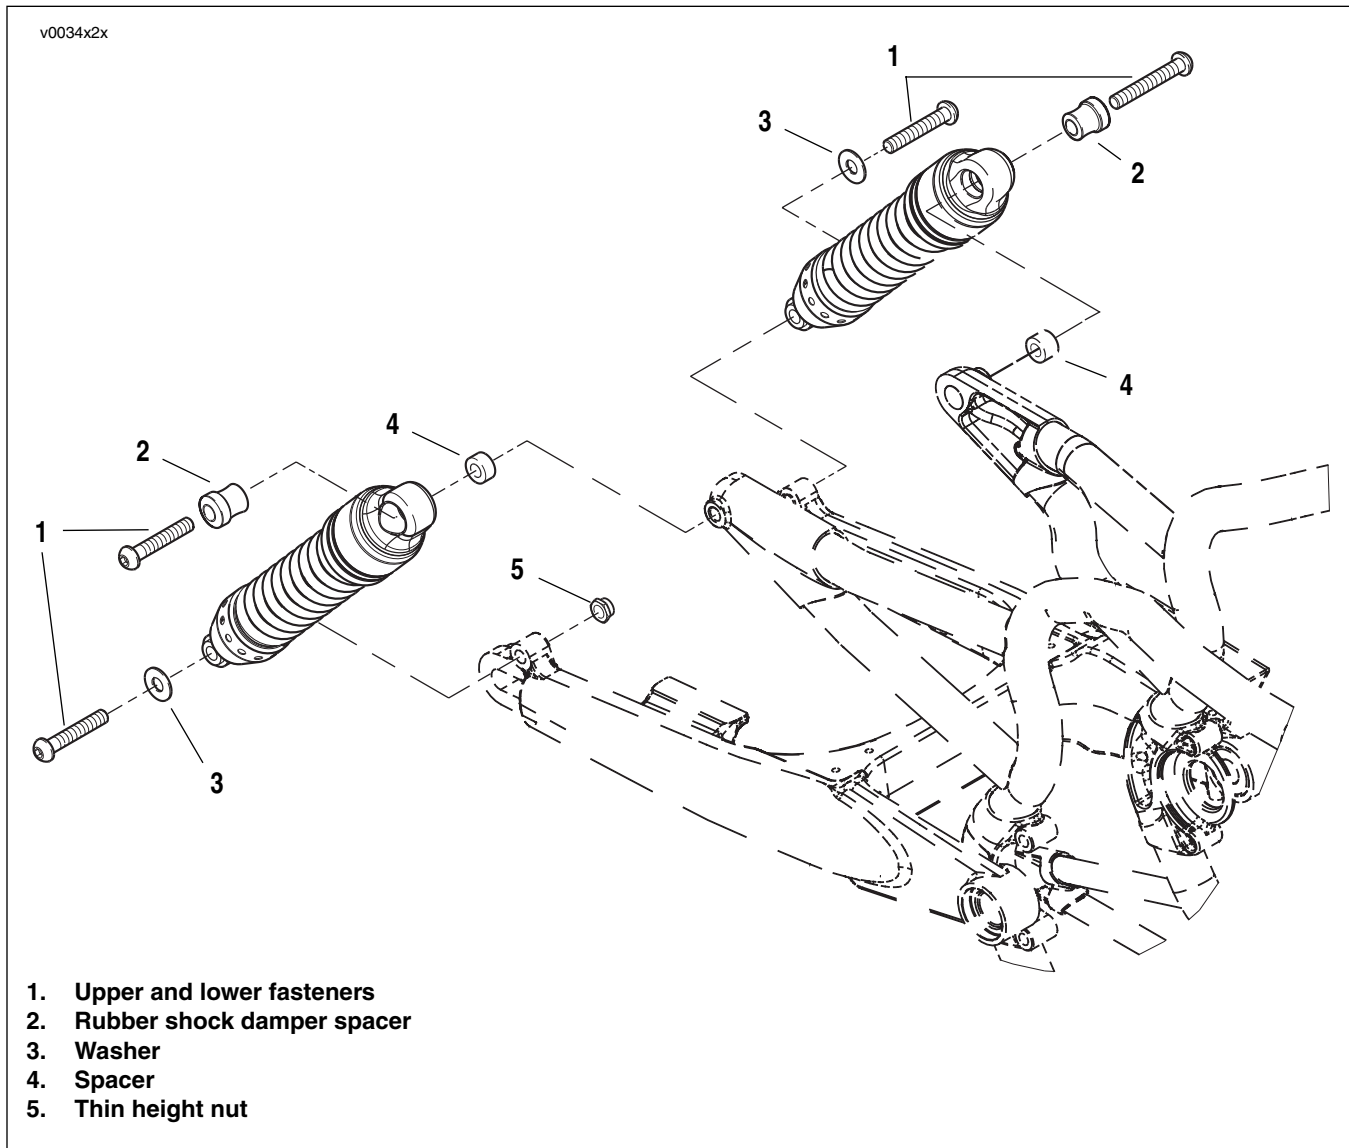

Figure 2-156. Rear Shocks (VRSCA/VRSCD)
2. See Figure 2-156. Remove lower fastener (1), washer (3), and thin height hex-nut (5) attaching right side shock to rear fork.
3. Remove lower bolt (1) and washer (3) from left side shock to rear fork and belt guard. Allow rear tire to rest on ground.
4. Remove top fastener (1) and spacer (2) from left side top shock mount and remove shock. Retain shock mounting nut which passes through fender support and side rail assembly.
5. Remove fastener (1) and spacer (2) from right side top shock mount and remove shock. Retain shock mounting nut which passes through fender support and side rail assembly.
1. See Figure 2-156. Insert bolt and spacer (2) through upper shock mounts.
3. Thread top shock fasteners (1) through top shock damper spacer (2) into threads of shock mounting nut.
6. Thread left side lower shock bolt (1) and washer (3) through shock mount and rear fork into belt guard.
7. Thread right side bottom shock mount bolt (1) and washer (3) through bottom shock mount in rear fork into thin height nut (5).